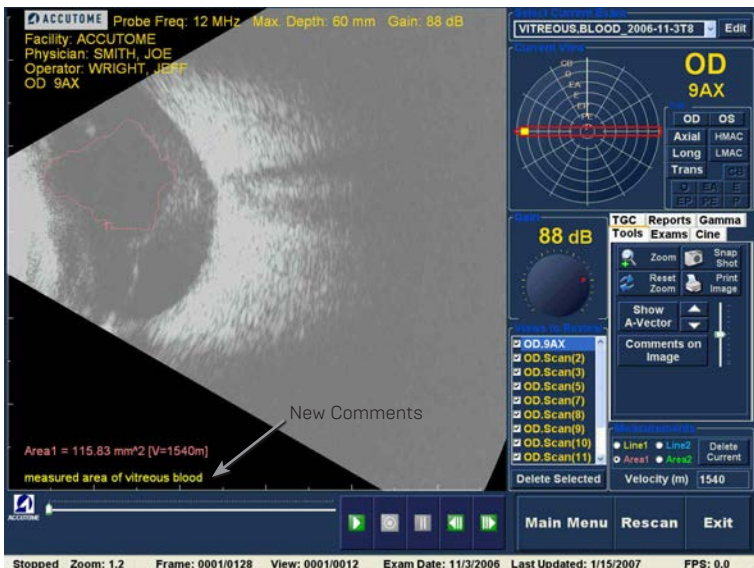

Figure 6.29 - Comments Appearing on Image
- The entered comments will appear on the image as shown in Figure 6.29 below.